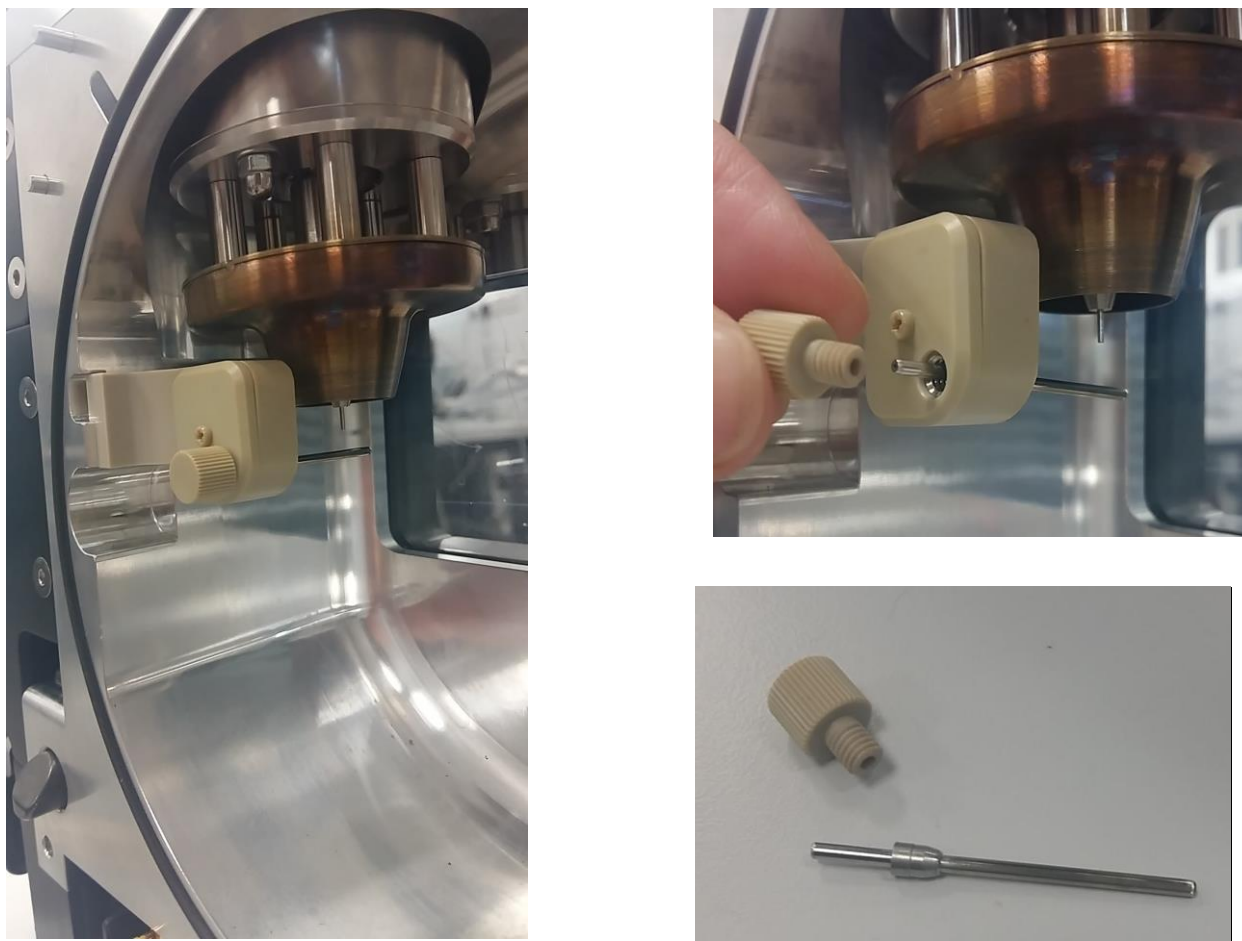

Figure 4. Impactor pin removal
1. The target pin will need to be cleaned regularly. If the source has to be retuned after a previous analysis then the pin should be cleaned as the spray will be spraying on to a dirty surface and will not be ionising efficiently. The Impactor pin can be removed by the removal of a PEEK retaining screw as shown in figure 4.